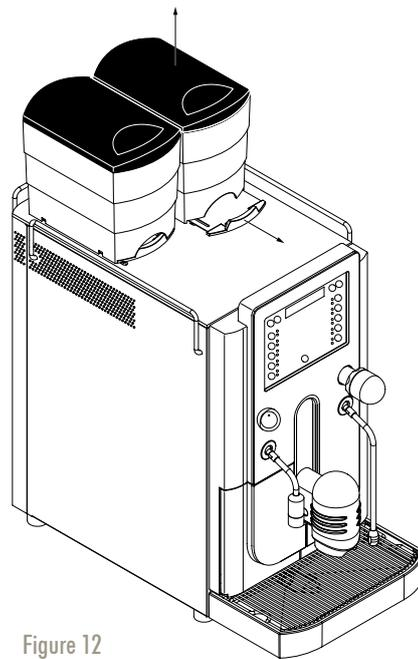

Figure 12
1. Pull the closure, at the foot of the bean hopper, so far as possible (Fig. 12).
2. The hoppers can now be lifted up and removed from the top of the coffee machine (Fig. 12).